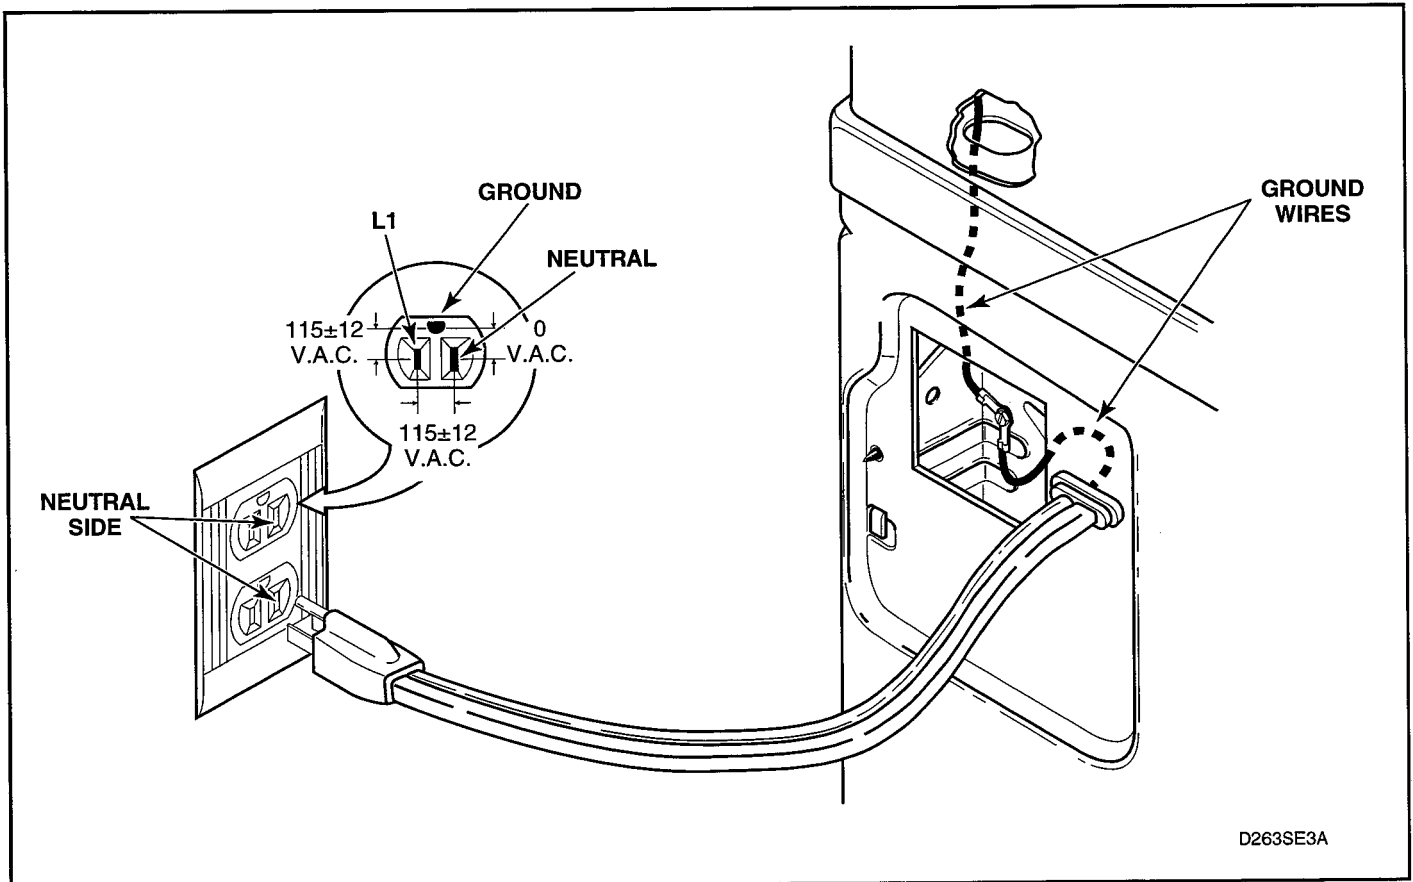

Figure 5-33
3. Remove screw holding power cord ground wire to rear bulkhead. See figure 5-33.